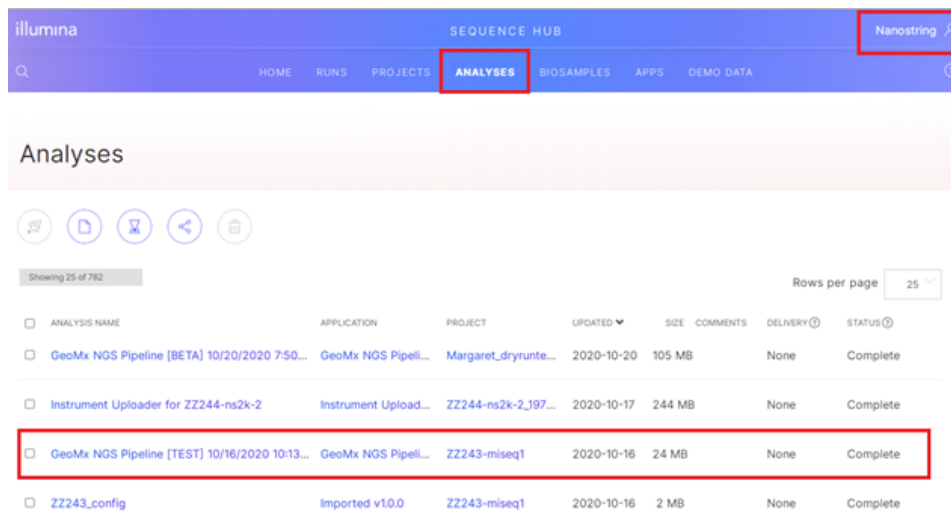

Figure 22: Analyses in BaseSpace
1. When the run is complete, log into BaseSpace, navigate to the workgroup, and select the **Analyses** tab (see Figure 22).
2. Click on the analysis of interest (see Figure 22).